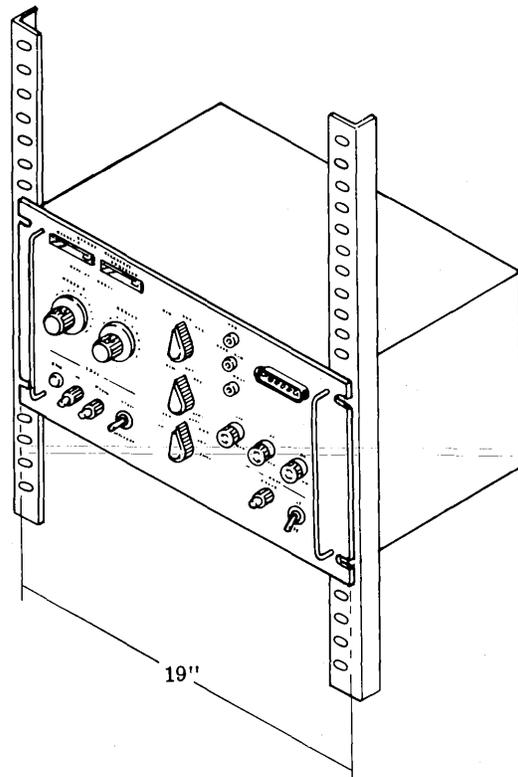

Figure 3 - Test Set Rack Mounting
2.04 Rack panel mounting for 19-inch relay racks is shown in Figure 3.